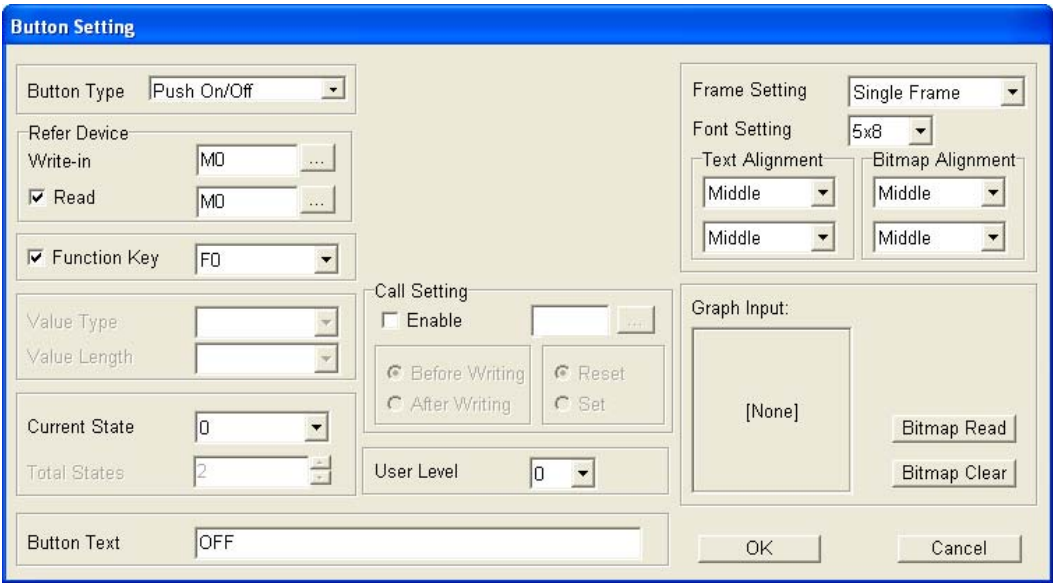

Figure 6-17 Button Setting window
- Step 4: After the users select **Push On/Off** in the **Button Type** drop-down list box, they have to select **F0** in the **Function Key** drop-down list box. After the users select **0** in the **Current State** drop-down list box, they have to type “OFF” in the **Button Text** box. Please see Figure 6-17.
After the users select 1 in the **Current State** drop-down list box, they have to type “ON” in the **Button Text** box, as shown in Figure 6-17. The users have to select 0 in the **Current State** drop-down list box, and then click **OK**.